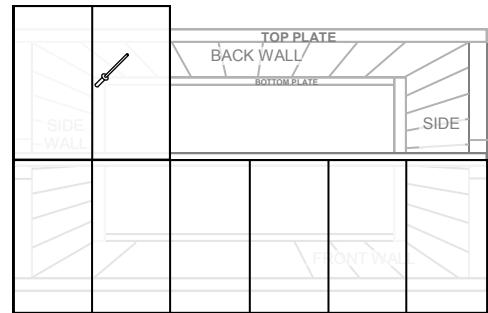

fig.1
- Place the Ridge Beam on a level surface and use 2 x 75mm screws to secure the Jack Studs to the underside of the Ridge Beam, one at each end (fig. 1).